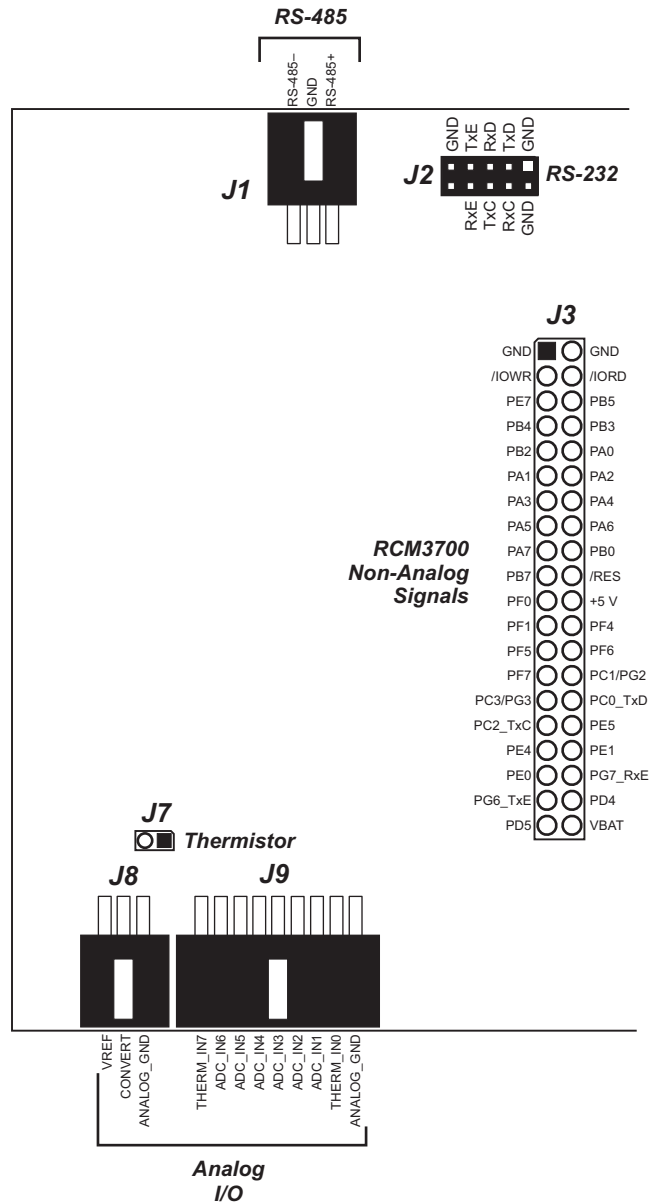

Figure B-4. Prototyping Board Pinout
- **Module Extension Headers**—The complete non-analog pin set of the RCM3600 module is duplicated at header J3. Developers can solder wires directly into the appropriate holes, or, for more flexible development, a 2 x 20 header strip with a 0.1" pitch can be soldered into place. See Figure B-4 for the header pinouts.
- **Analog I/O Shrouded Headers**—The complete analog pin set of the RCM3600 Prototyping Board is available on shrouded headers J8 and J9. See Figure B-4 for the header pinouts.
The Prototyping Board pinouts are shown in Figure B-4.
Analog input THERM_IN7 on the Prototyping Board was designed specifically for use with a thermistor in conjunction with the **THERMISTOR.C** sample program, which demonstrates how to use analog input THERM_IN7 to calculate temperature for display to the Dynamic C **STDIO** window. The sample program is targeted specifically for the thermistor included with the Development Kit with $R_0 @ 25^\circ\text{C} = 3 \text{ k}\Omega$ and $\beta 25/85 = 3965$. Be sure to use the applicable R_0 and β values for your thermistor if you use another thermistor. Install the thermistor at location J7, which is shown in Figure B-4.